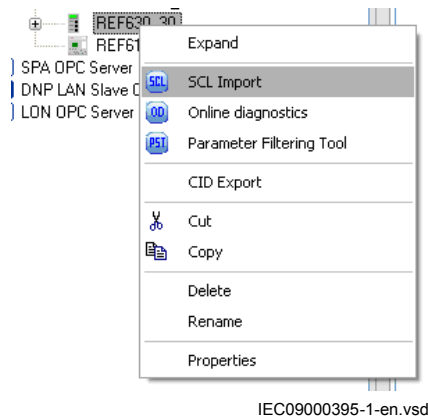

Figure 27: Import exported CID file for created generic device
- Export the CID file from PCM600 and import it for the created generic device, see Figure 27.